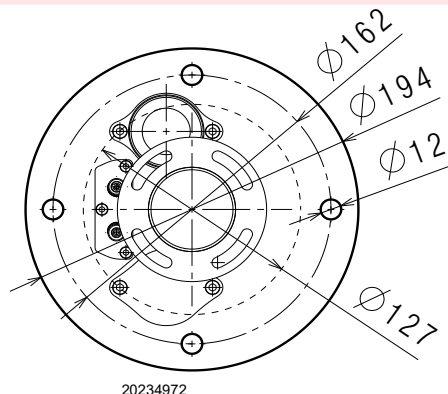

Fig. 5
** Version with flange (Fig. 5 on page 10)
Pierce the closing plate of the combustion chamber, as in Fig. 5.
- Unscrew the nut 4)(Fig. 5) and the washer 5), already installed;